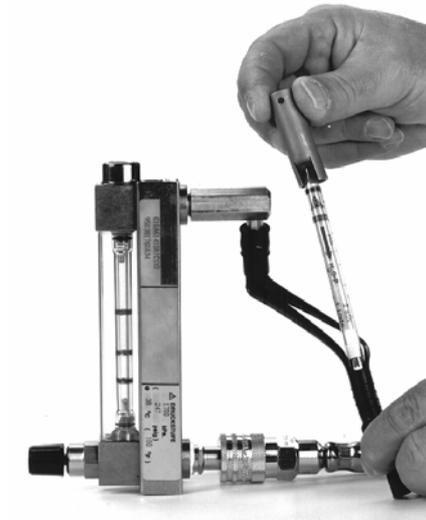

Fig. 4: Inserting detector tube into detector tube holder
- Break off other end of the detector tube (air entry side) and immediately insert open tube tightly into other end of detector tube holder (close to test device). (see fig. 4).